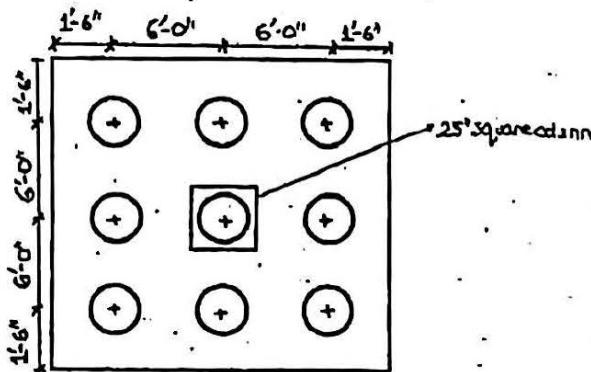

Figure: 8
7. (a) The plan of a pile cap with 9 nos 24 in. diameter cast-in-situ piles with the column ($25'' \times 25''$) is shown in Figure 8. The column carries a working dead load of 650 kip and live load of 500 kip. The individual pile capacity is adequate. Design the pile cap. Given: $f_c' = 4000$ psi and $f_y = 60000$ psi.
7. (a) The plan of a pile cap with 9 nos 24 in. diameter cast-in-situ piles with the column ($25'' \times 25''$) is shown in Figure 8. The column carries a working dead load of 650 kip and live load of 500 kip. The individual pile capacity is adequate. Design the pile cap.